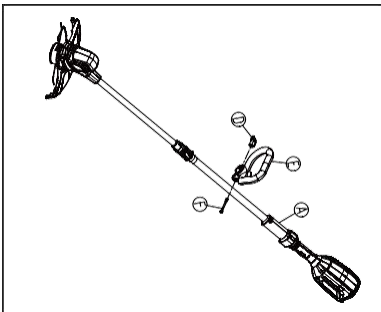

Fig. 1a
Slide the front handle (E) into place and swivel it into the desired position. Use the included bolt (F) and handle adjustment knob (D) to secure it into place. (See Fig. 1a, 1b).